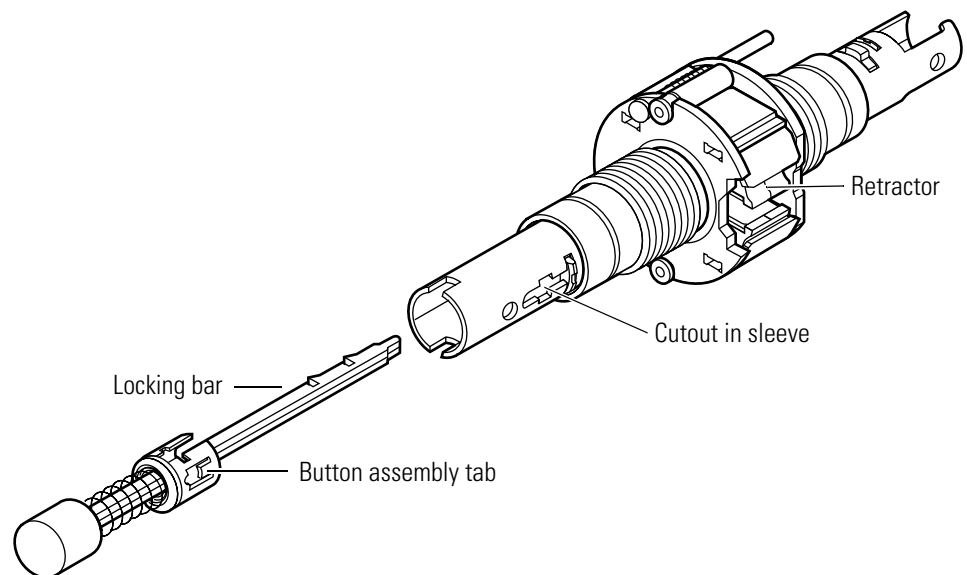

**Figure 3.12** Removing the button assembly
2. Use a flat blade screwdriver to press down on the button assembly tab, which is visible through the cutout in the sleeve, as shown in Figure 3.12. The tab should now lie flat.